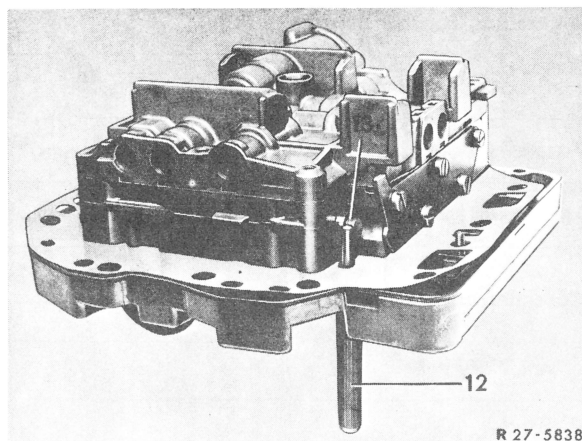

Fig. 5
7 Insert locating pin (12) for control pressure valve (13) into shift valve housing (Fig. 5).
10 Remove locating pin (12) (Fig. 5).